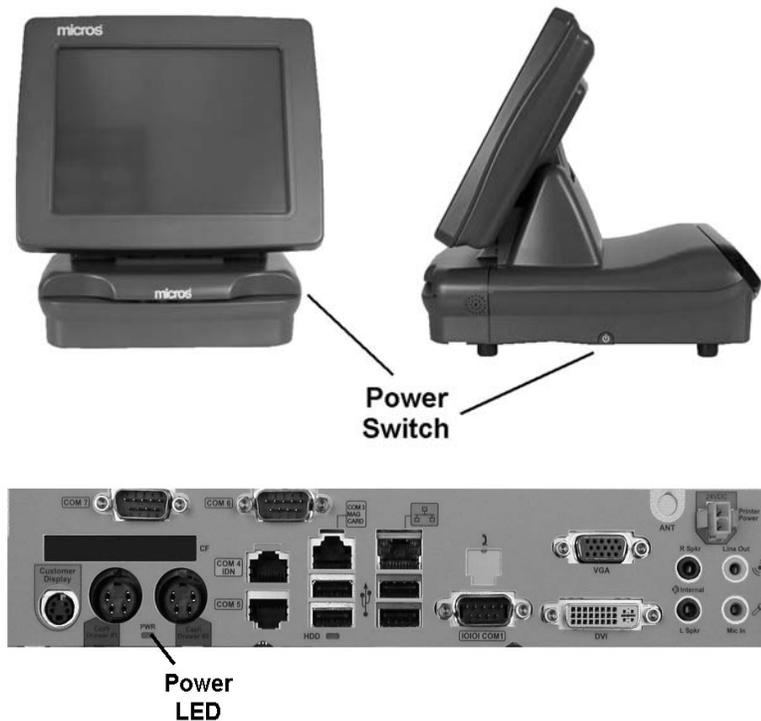

Figure 1-16: Using the PCWS 2010 Power Switch
The upper half of Figure 1-16 shows the location of the power switch. The lower half of the illustration shows the power LED that is visible when the MCR Cover is removed.
- When the workstation is OFF, and connected to AC power, the Power LED is amber to indicate the unit is in the 'Soft Off' state. Press the power button shown in Figure 1-16 to start the unit.